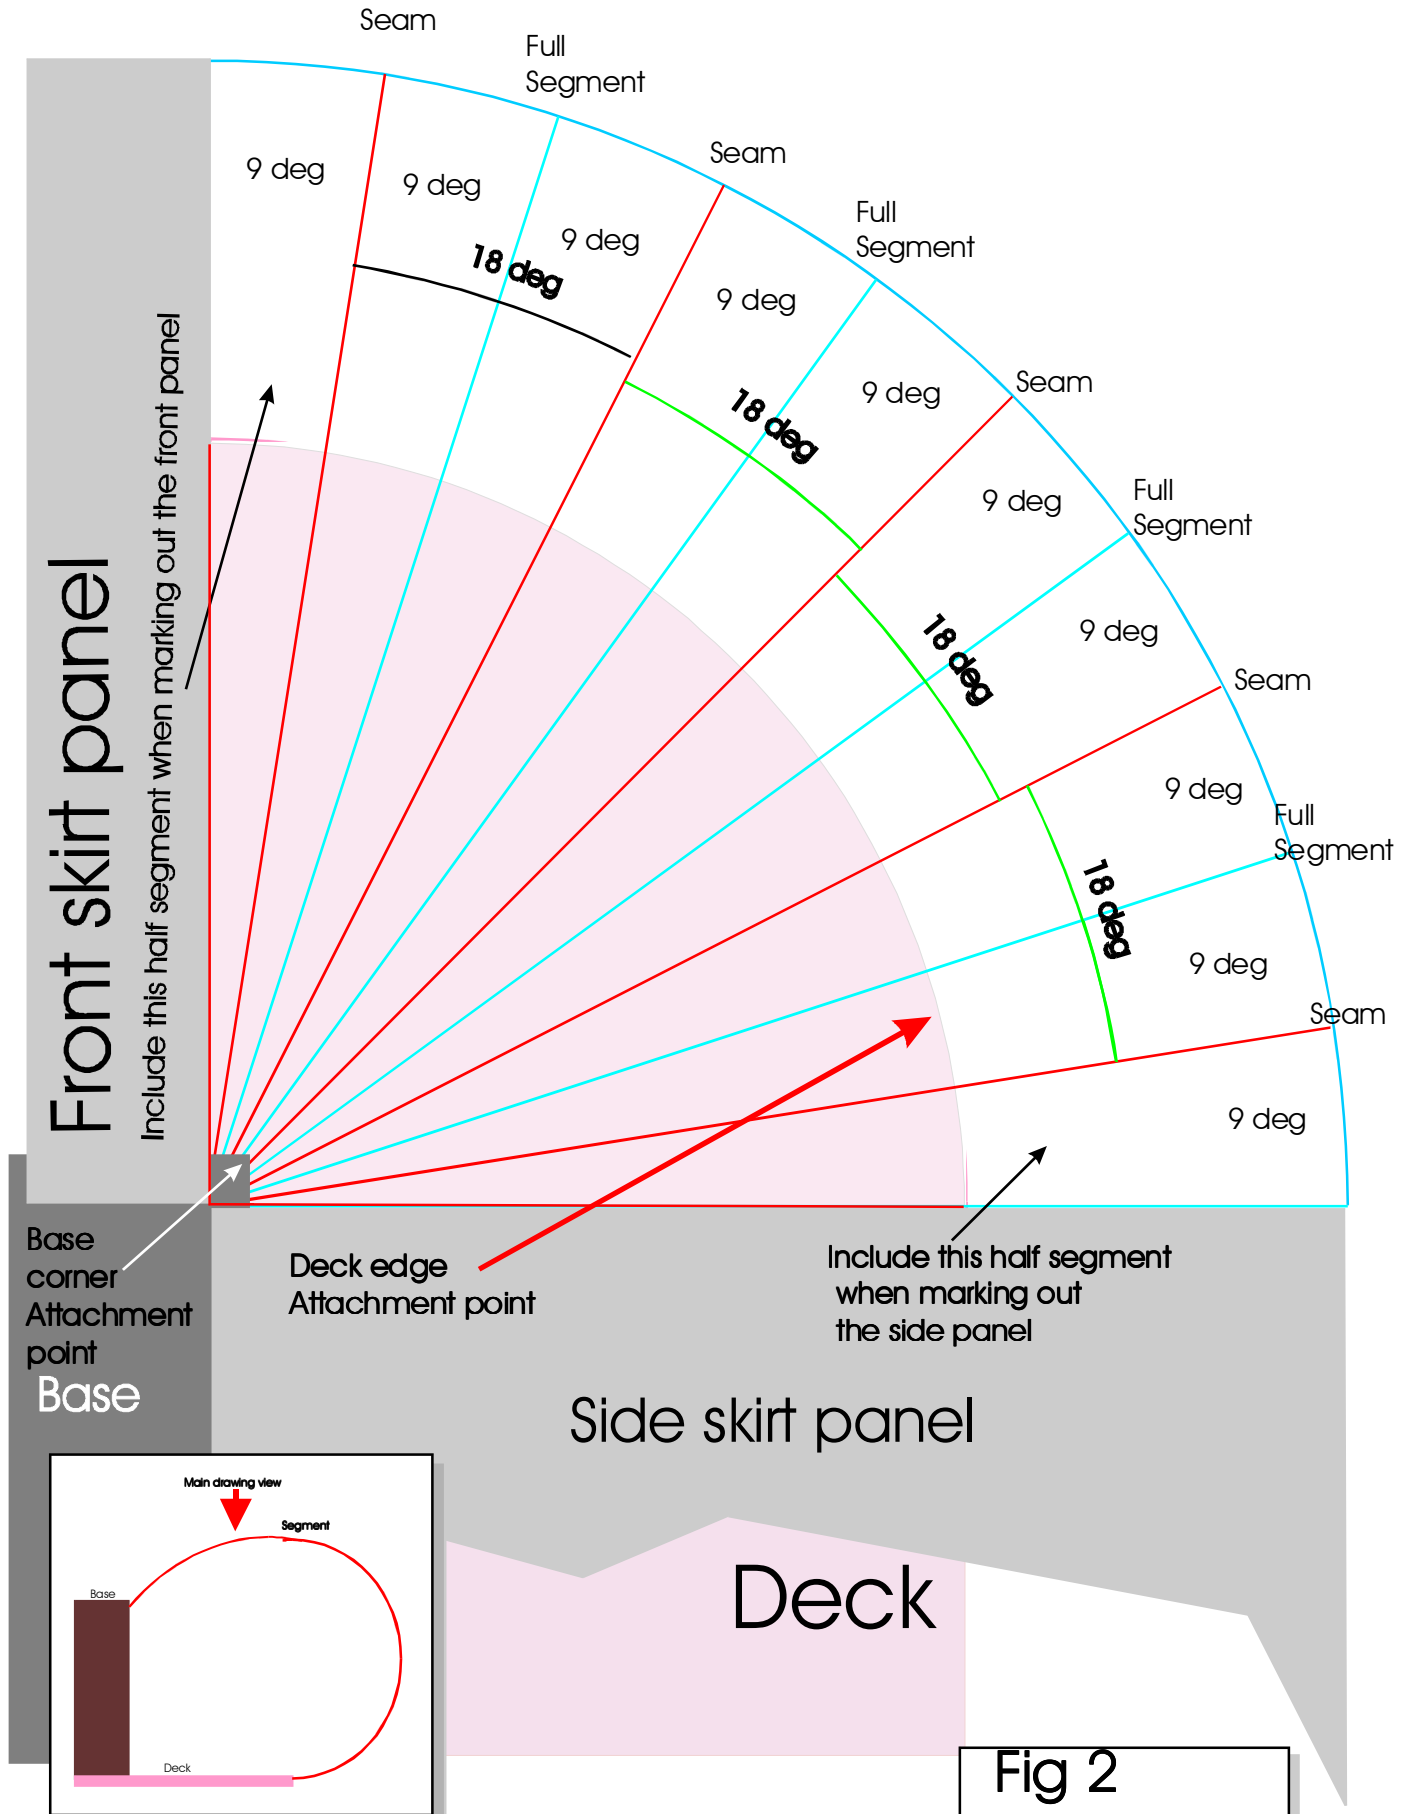

Fig 2
- 17) Decide on the number of segments required to make the corner of the skirt. For these instructions we will assume five segments are required. This means we need four full segments and two half segments. See Fig 2 for segment layout.
- 18) Using the corner of the base as the point of a 90 deg angle and draw up the corner of the model on a new piece of paper. Shown outlined in red in Fig 2.
- 20) Divide the segment angle by 2 and use this result to mark in the half segments at each end of the 90 deg arc. Refer to Fig 2